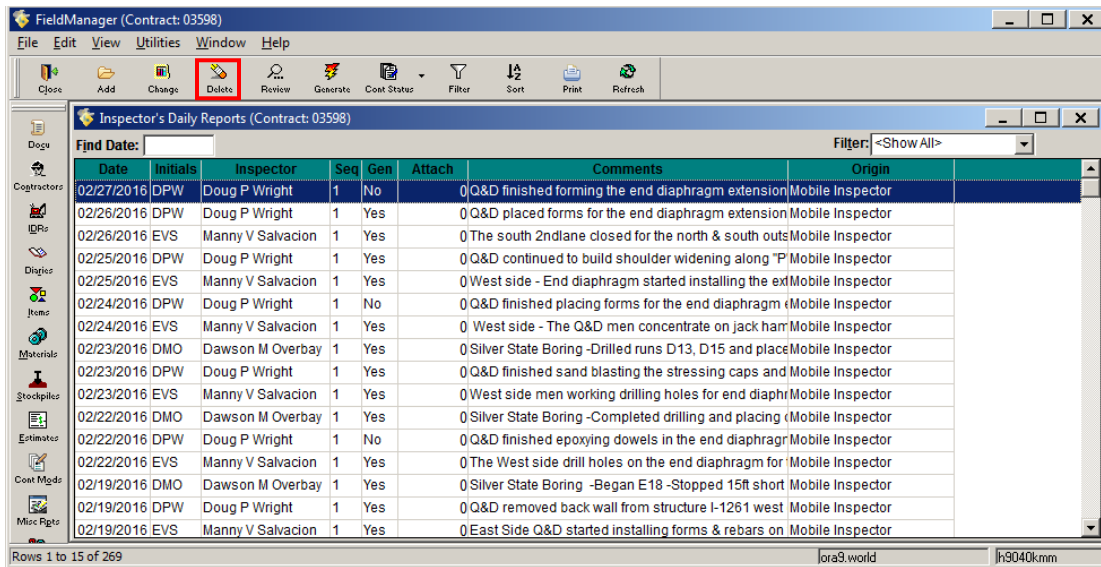

Figure 7-16. Inspector's Daily Reports List Window
- Click **Delete** on the Window Toolbar (Figure 7-16).